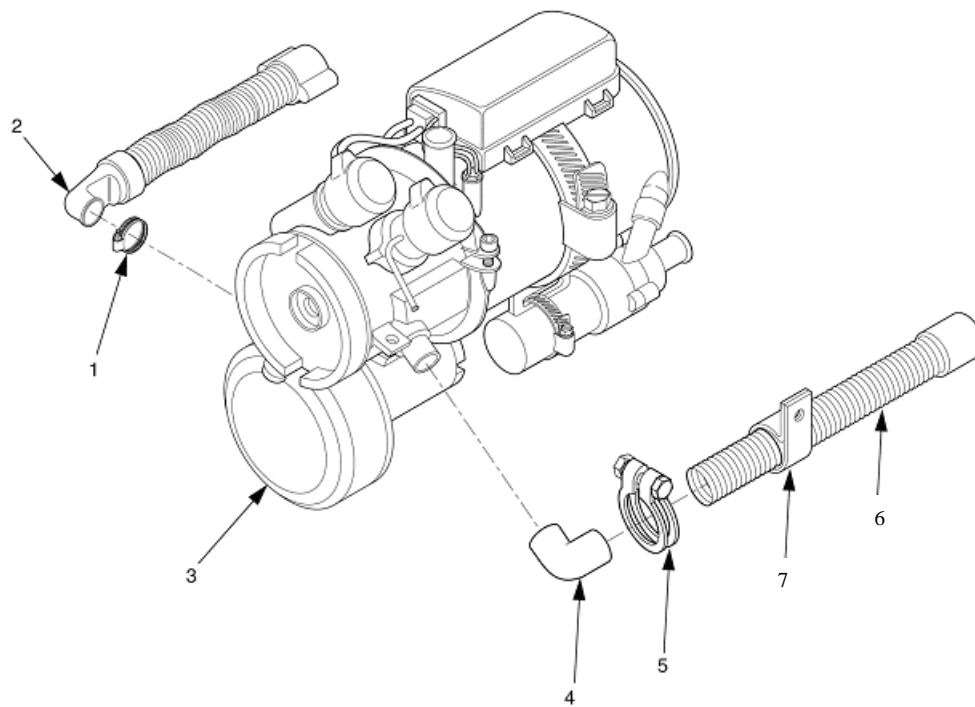

Figure 4-26. Air Inlet and Exhaust Hose Maintenance.
1. Loosen screw clamp (1), Figure 4-26, to remove air inlet hose (2) from heater (3).
2. Loosen screw clamps (5 and 7) to remove air exhaust hose (6) and elbow (4) from heater (3).
3. Remove RTV and air exhaust hose (2) and clamp (1).